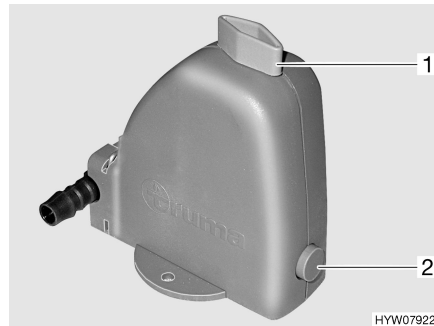

Fig. 60 Safety/drainage valve of the boiler
The boiler is equipped with a safety/drainage valve (Fig. 60). The safety/drainage valve prevents water in the boiler from freezing, when there is frost and the heater is not switched on.
- Close the safety/drainage valve. Turn the knob (Fig. 60,1) perpendicular to the safety/drainage valve and push the push button (Fig. 60,2) in.
- Open the safety/drainage valve. To do this turn the knob (Fig. 60,1) parallel to the safety/drainage valve. The push button (Fig. 60,2) jumps out. The boiler is drained to the outside by the safety/drainage valve.